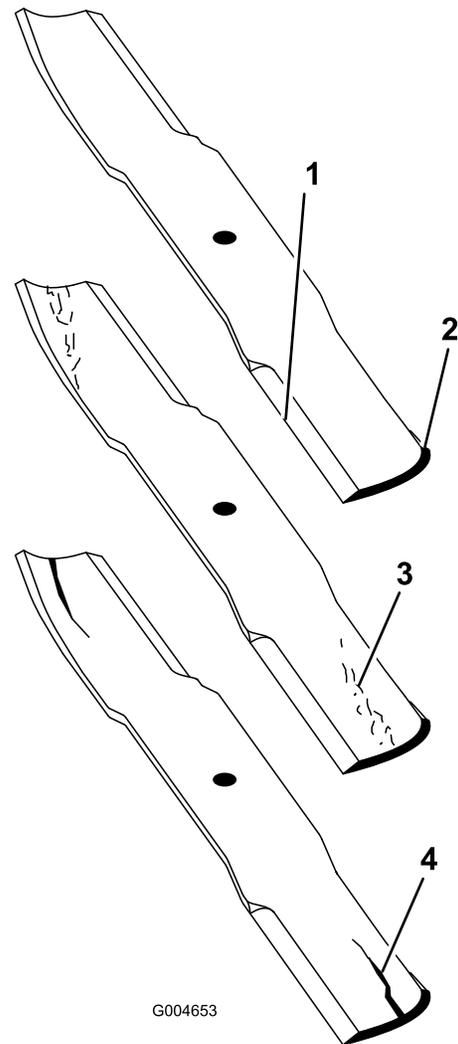

Figure 110
2. Examine the cutting ends of the blade carefully, especially where the flat and curved parts of the blade meet (Figure 110).
Note: Because sand and abrasive material can wear away the metal that connects the flat and curved parts of the blade, check the blade before using the mower. If wear is noticed (Figure 110), replace the blade.